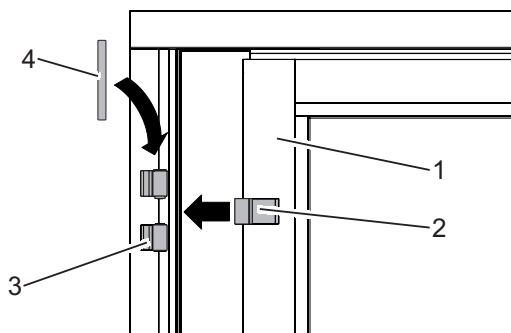
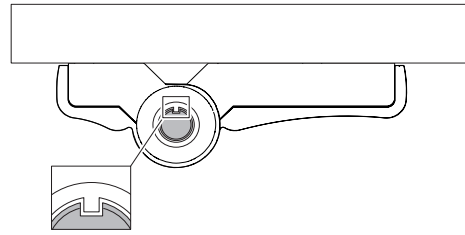

Fig. 17: Inserting the single action door into the door hinges
Fig. 18: Inserting door hinge pin
- Insert the single action door (Fig. 17/1) with the hinges (Fig. 17/2) into the door hinges (Fig. 17/3).
- Insert the door hinge pins (Fig. 17/4). Groove and lug must interlock (Fig. 18). If necessary, slightly turn the door hinge pin.